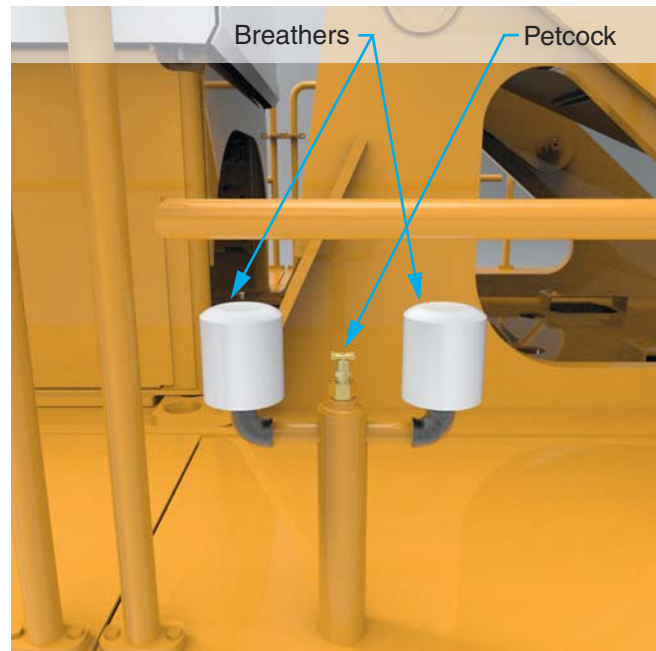

Figure 11 Hydraulic Tank Breathers
3. Relieve pressure in the tank by opening the petcock between the breathers. See Figure 11.